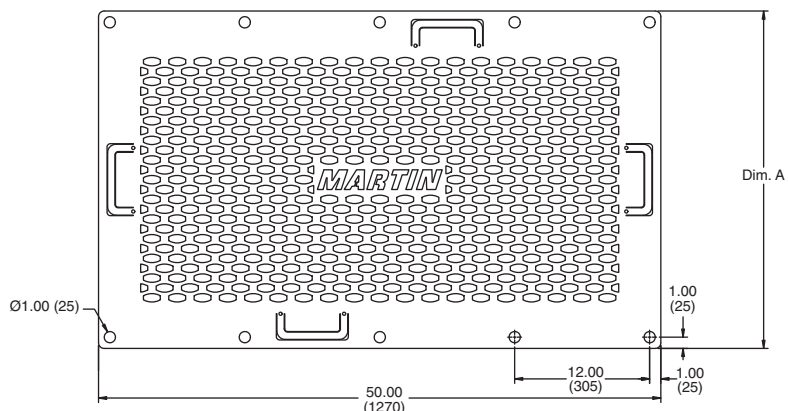

Figure 1. Conveyor Guard Dimensions
3. Using the conveyor guard as a template, mark location of mounting holes. Refer to Figure 1.
5. Bolt or weld mount plates (C) to support structure.
6. Install wedge bolt (B) on mount plate (C) and fasten with lock washer (D) and nut (E).
7. Install conveyor guard (F) on wedge clamp assemblies (A).
8. Determine location of support weldments (G).
9. Bolt or weld support weldments (G) to structure.